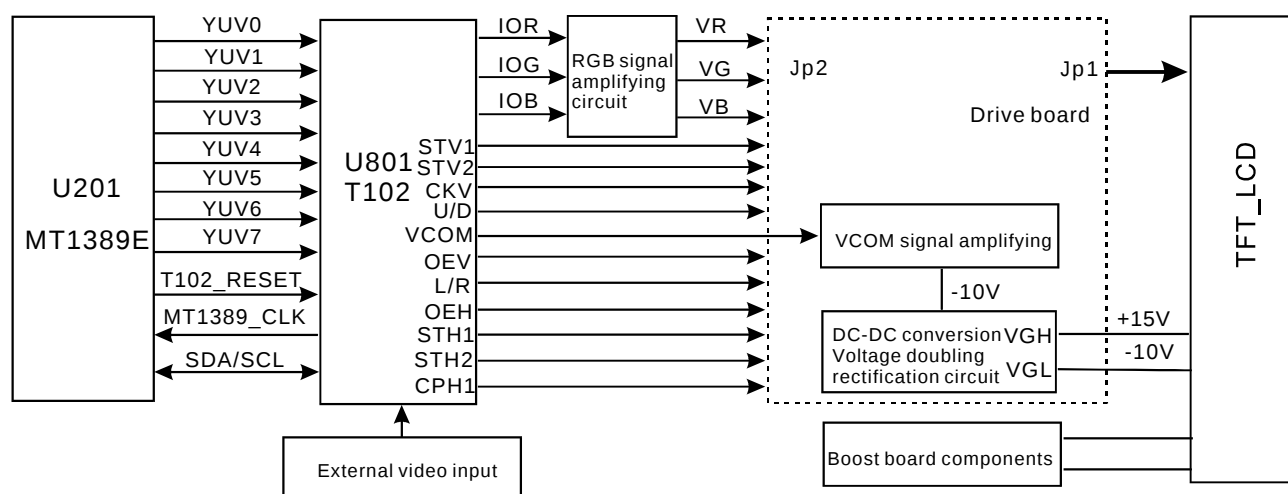

Figure 3.2.9.1 Video coding and LCD - TFT drive circuit block diagram
1. Video coding and LCD - TFT drive circuit block diagram is shown as in the following figure 3.2.9.1:
2. Working principle: decode chip outputs digital video signal and directly inputs to T102 for coding in the means of data in parallel (8 bit), and restore digital signal to 3 base colour signal through internal DAC circuit and are outputted by pin 62, 65, 68 and sent to a amplifying circuit composed of single triode. Shown as in the figure 3.2.9.2, converse small current signal of RGB into voltage output means to drive LCD screen to display.